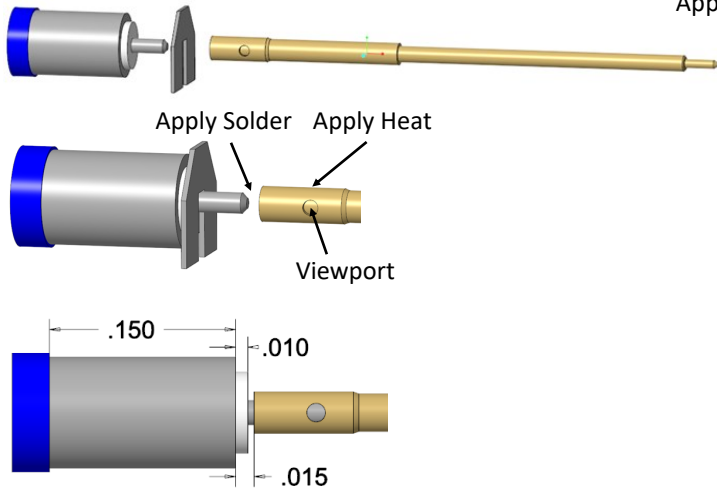

Figure 3: Center Conductor Attachment
dimension shown in Figure 3
- For socket contact 2389332-1 (only), assemble center conductor onto cable center conductor. See Figure 3.